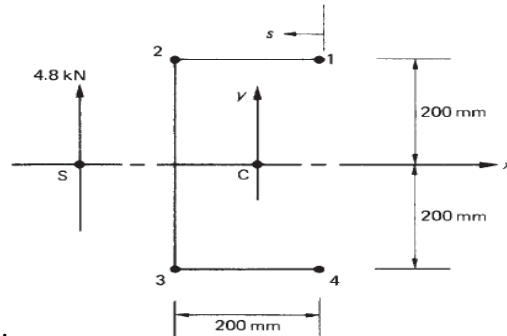

Figure.4
- 6 Calculate the shear flow distribution in the channel section shown in Figure.4. produced by a vertical shear load of 4.8 kN acting through its shear centre. Assume that the walls of the section are only effective in resisting shear stresses while the booms, each of area  $300\text{mm}^2$ , carry all the direct stresses. [15M]